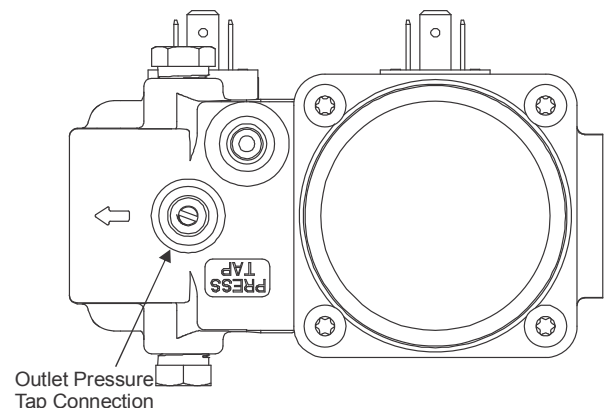

Figure 4: Underside of Valve
- If you desire to measure the outlet pressure, use the bottom cast pressure test fitting (see Figure 4) or use the Y99AX pressure test fitting (see Figure 3) and an approved pipe joint compound on the male threads and replace the marked pressure tap plug, which is optional on the inlet or outlet of the valve body. Screw the fitting into threaded port of the valve, which replaces the pressure tap plug.